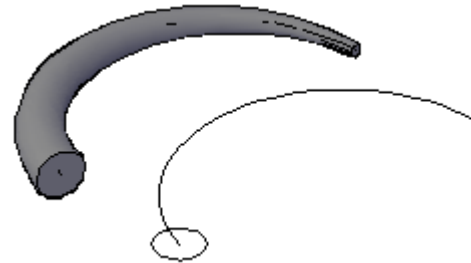

Figure 4
d. Sweeping the close shape profile with **Scale** option (Figure 4).
e. Sweeping the close shape profile with **Base point** option (Figure 4).